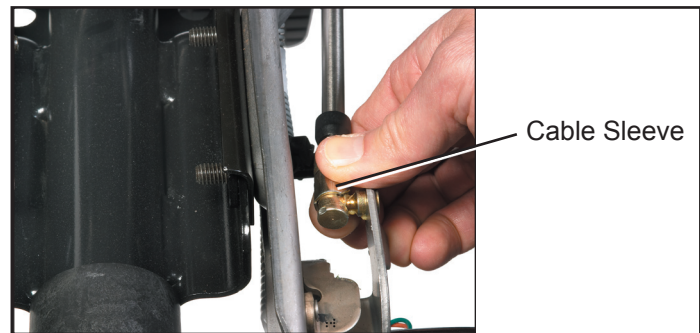

Figure 5 - AT Shifter Sleeve
4. Disconnect the shifter cable from the column shifter(1) by pulling the sleeve back on the shifter cable end and lifting the socket from ball on the shifter tilt lever. See Figures 5 and 6. Loosen the shifter cable from the column shifter by removing and discarding the shifter cable screw(4) with a T-30 torx wrench. Refer to Figure 10.